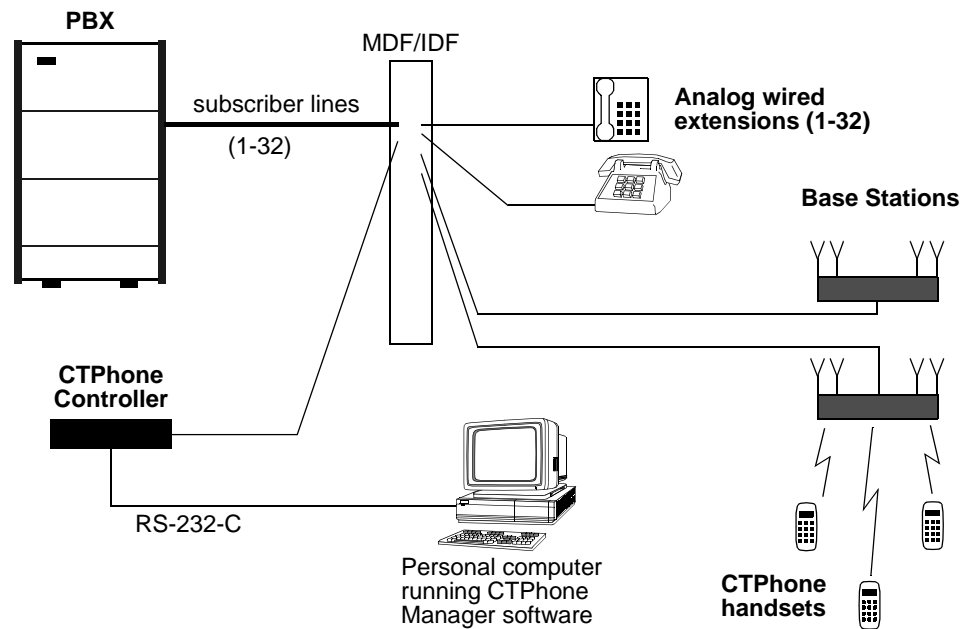

Figure 1-1. CTPhone 1900 System Components
Figure 1-1 illustrates a CTPhone 1900 system connected to a PBX. Analog lines in the PBX connect to the CTPhone Controller and provide a signal to the Base Stations. The Base Stations convert the analog signal to a Radio Frequency (RF) signal for transmission to the handsets. The same lines may be connected to wired extensions for users that desire both CTPhone and wired extensions.